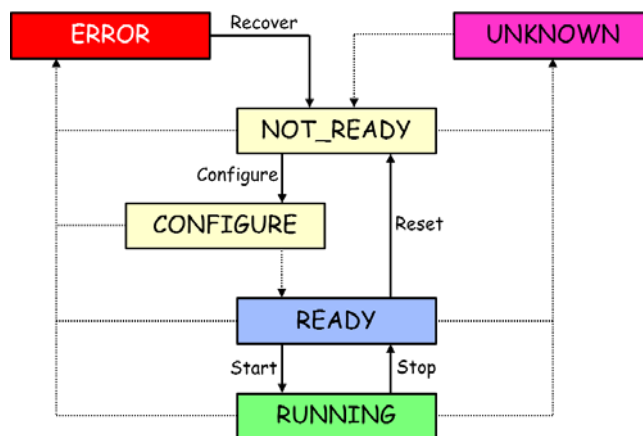

Figure 5: ½ROB state diagram
The operation domain of the DU (and for the CU's as well), is shown in figure 5.
1. **Watchdog-State:** control manager to maintain the actual state (as shown in figure 5) of each ½ROB. These states are input for the DU's and propagated upwards to the CU's.
The DU of the ½ROB should be able to execute the possible commands as shown in figure 5: RECOVER, CONFIGURE, RESET, START and STOP. These commands are implemented as WINCC-OA scripts. The CONFIGURE command requires access to the database containing the settings of the numerous registers and calibration data of the PACIFIC chips.